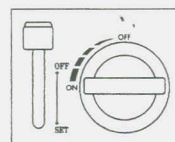

Fig.1
- Turn the knob to OFF position. Make sure that the cartridge fixing lever is in OFF position. (Fig. 1)